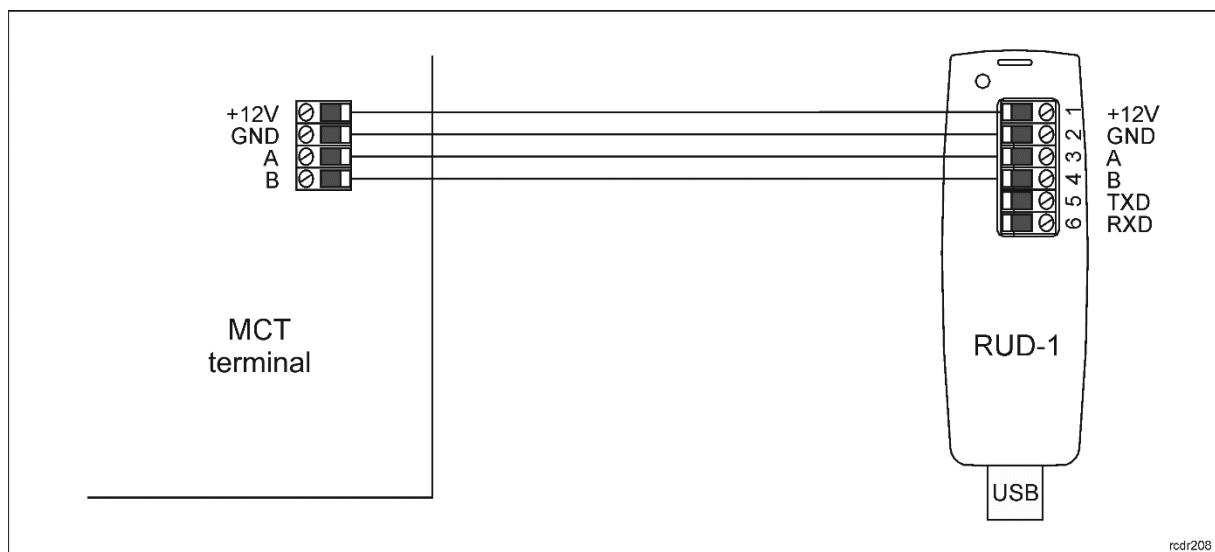

Fig. 10 Connection to RUD-1 interface (low level configuration)
1. Connect the device to RUD-1 interface (fig. 10) and connect the RUD-1 to computer's USB port.